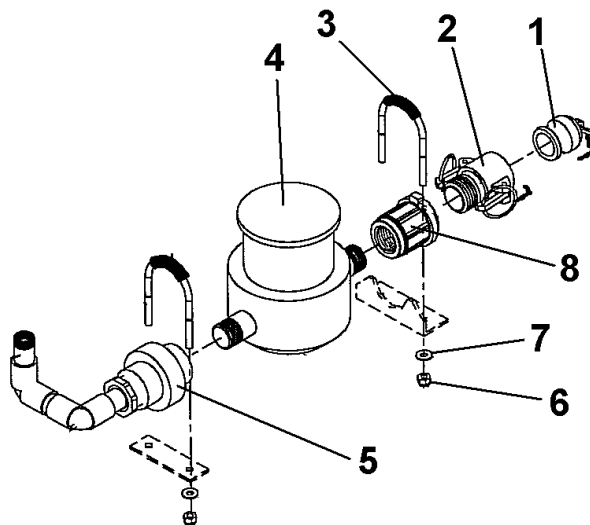

Figure 2. Totalizer.
1. Remove nuts (6) and washers (7) and remove U-bolts (3). See Figure 2.
2. Loosen union (5) all the way.
3. Remove the totalizer (4). Remove union (5) from totalizer (4) if necessary.
4. Remove dust plug (1), female camlock (2), and adapter (8) if necessary.